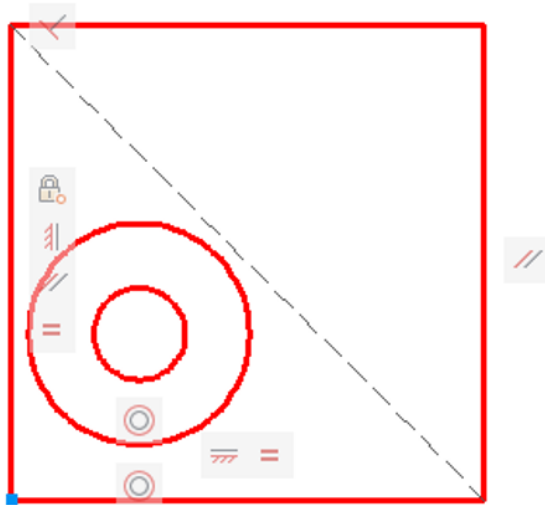

FIGURE 19-5:
12. Draw a line between diagonally opposite corners using Endpoint object snaps, and then apply coincident constraints between the endpoints of this line and the corners of the rectangle (see Figure 19-5).